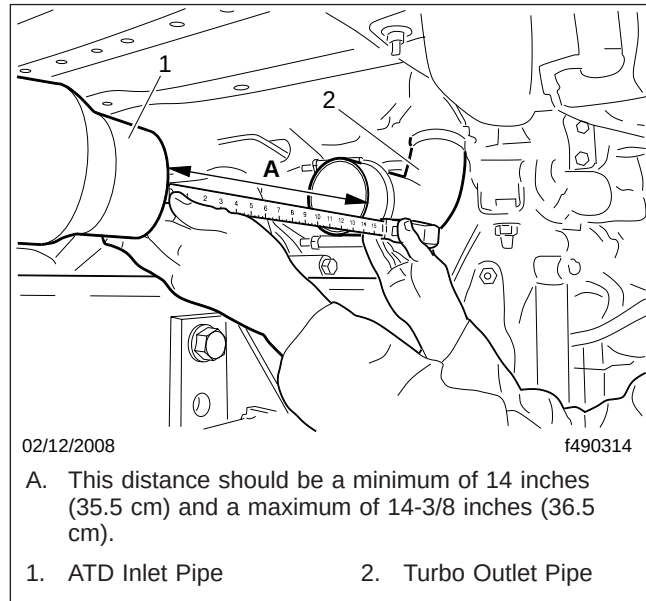

Fig. 5, Measuring the Distance Between Pipe Ends
15. With the two pipe ends in horizontal and vertical alignment and the bellows not installed, measure the distance between them. See Fig. 5.